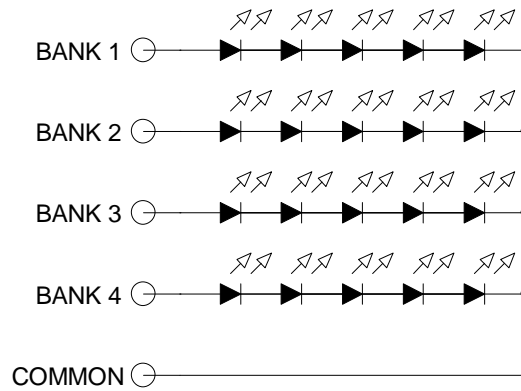
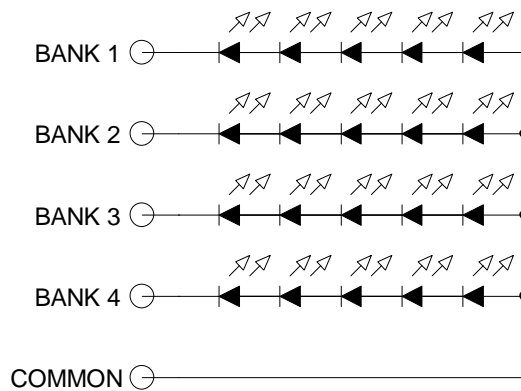
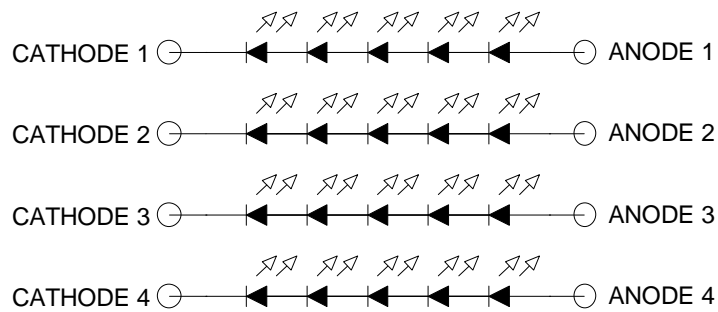

Figure 1 Common-cathode configuration
Figure 2 Common-anode configuration
Figure 3 All independent connections
Most of the LED equipped displays becoming available on the market are connected in one of three configurations, as defined in Figures 1, 2 and 3. ACI's I-LITE LED drivers can drive up to six (6) parallel channels of series-connected LEDs, and comes in two configurations. The first, common-cathode configuration, supports displays connected as shown in Figure 1. The second, common-anode configuration, supports displays that are connected as shown in Figure 2. In the case of each anode & cathode connection being brought out as shown in Figure 3, either I-LITE configuration will work.
The I-LITE family of LED drivers features two output connectors (CON2 & CON3). CON2 supplies up to six (6) channels of drive current with one return connection. Only this connector need be used when the LEDs are configured as shown in Figure 1 (common-cathode), or Figure 2 (common-anode). If the LED strings have independent anode & cathode connections as shown in Figure 3, then both CON2 & CON3 are used.